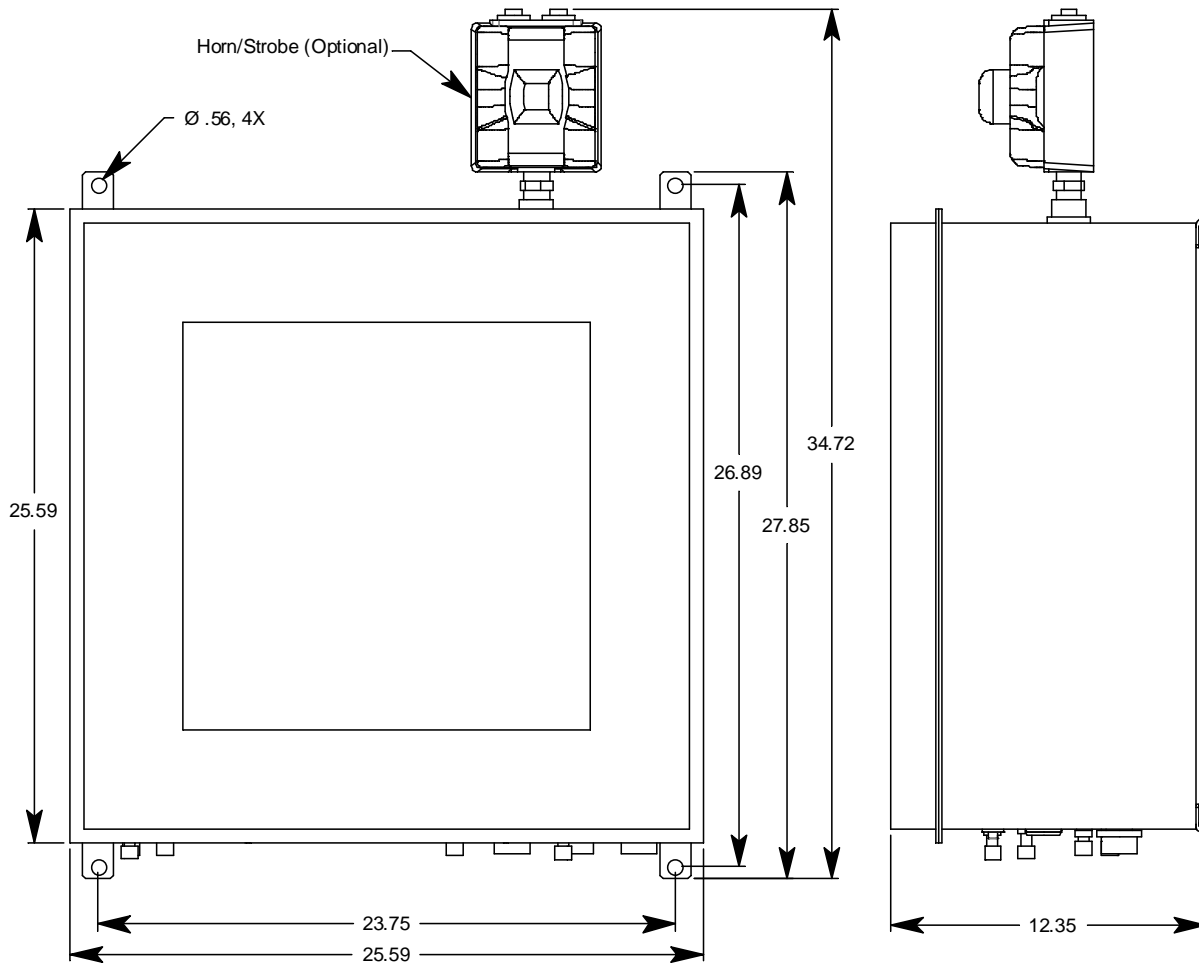

Figure 11: Digester Gas Monitor Outline and Mounting Dimensions
4. Prepare the selected mounting site as required to mount the Digester Gas Monitor. It should be mounted at eye level (4 1/2 to 5 feet from the floor). Refer to Figure 11 for the outline and mounting dimensions.